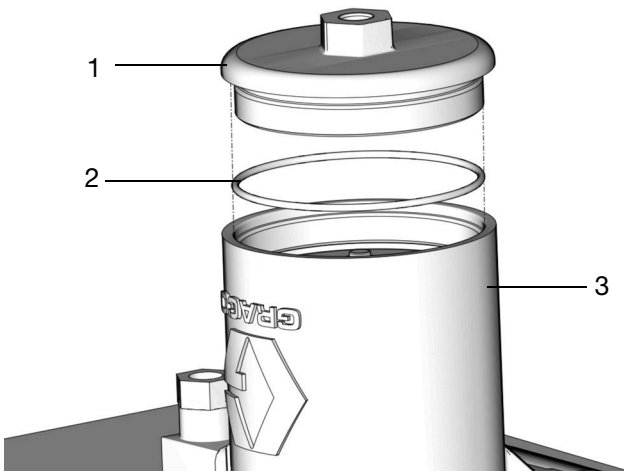

FIG. 21
20. Remove the cover (1), the cover o-ring (2,) and the spring (6). Dispose of the o-ring according to all regulations for proper disposal (FIG. 21).